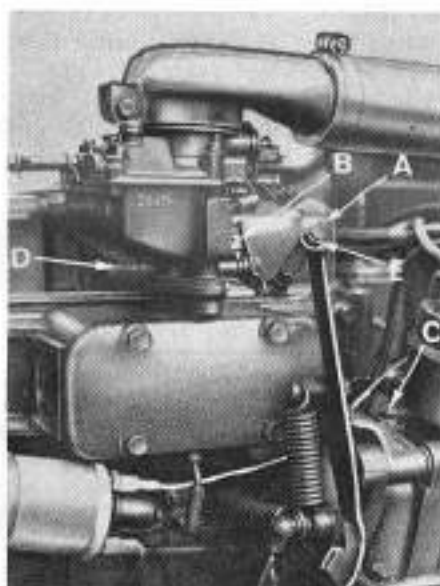
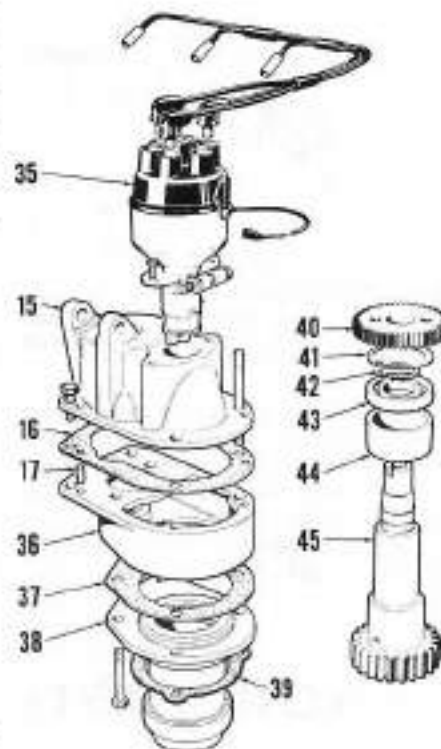

Fig. 73 — View showing governor adjustment points for models 3800 and 4600.
Fig. 76 — Exploded view of distributor drive unit. Bearing support (20—Fig. 75) mounts on lower housing (36).
Start and run engine until at normal operating temperature. Move the slow idle speed (forward) stop on throttle lever quadrant to end of slot so that throttle lever can be moved fully forward. Temporarily install an idle speed adjusting screw (#2 British Association thread) into the carburetor throttle lever and turn screw in until engine is running at 1400 RPM; refer to Fig. 73. Disconnect governor link from carburetor throttle arm and hold throttle arm at 1400 RPM position with rubber band as shown in Fig. 74. Take care not to overspeed engine while disconnecting the governor link.
With engine running at 1400 RPM, loosen lock nut on governor adjusting screw (C—Fig. 73) and back screw out until button head on lower end of screw clears governor weight plunger (18—Fig. 75) which extends up through governor housing (15). Then, turn screw back in until it just contacts the plunger plus one to 1½ additional turns and tighten lock nut.
With screw (C—Fig. 73) adjusted, adjust carburetor idle fuel mixture needle as follows: Back out the temporarily installed screw in carburetor throttle arm until engine is running
not remain at 500 RPM, adjust length of governor link rod (A—Fig. 73) by loosening lock nut and turning adjusting nut (E). Retighten lock nut when 500 RPM idle speed is obtained.
112. R&R AND OVERHAUL. Turn engine to static timing position (refer to paragraph 113) and remove ignition distributor. Note position of drive slot in shaft (45—Fig. 76) for reassembly. Disconnect all governor linkage, remove nuts from the two long studs extending through governor housing into cylinder block, then lift complete governor assembly from cylinder block and studs.
Unbolt and separate upper governor housing (15—Fig. 76) from lower housing (36) and withdraw thrust bearing and push rod assembly (18—Fig. 75) from upper housing. Thread two stud bolts into puller holes in governor drive gear (40—Fig. 76) and using suitable adapters, pull gear from shaft (45). Remove lower housing (36) from drive housing (38). Remove snap ring (42) and press shaft (45) downward out of housing and bearing (43), then remove snap ring (41) and press bearing upward out of housing. Remove bushing (44) from lower end of housing.
Unbolt bearing support plate (20—Fig. 75) from lower housing (36—Fig. 76) and remove the governor weight
Fig. 75 — Exploded view of governor assembly. Adjusting screw (12) (see also C-Fig. 73) contacts weight plunger (18) which extends up through the housing (15). Governor gear (22) is driven from gear (40—Fig. 76) on distributor drive shaft.